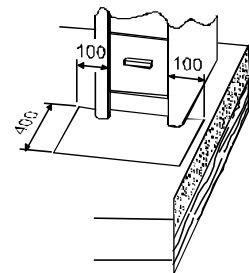

Figure 7.
The fireplace must be mounted on a fixed base. The base must be able to withstand the weight of the heater and prevent the excessive rise in temperature of structural parts attached to it. When mounting a heater onto a wood floor, a minimum of 50 mm thick concrete slab or minimum of 7 mm thick fibre-reinforced concrete sheet covered by sheet metal must be used as a base. (Figure 7).
The minimum safety distances listed in items 1-5 do not apply to combustible floor materials in front of the heater. The floor must be protected with a metal sheet which is tightly fastened to the floor and heater. This protection must extend at least 100 mm beyond the outer edges on both sides of the heater door and 400 mm out from the door. (Figure 7).